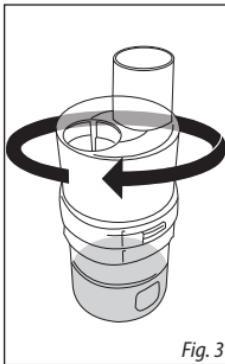

Fig. 3
Step 3: Replace the top of the nebulizer and twist to close; gently pull the top to ensure the top is secure, Fig 3.